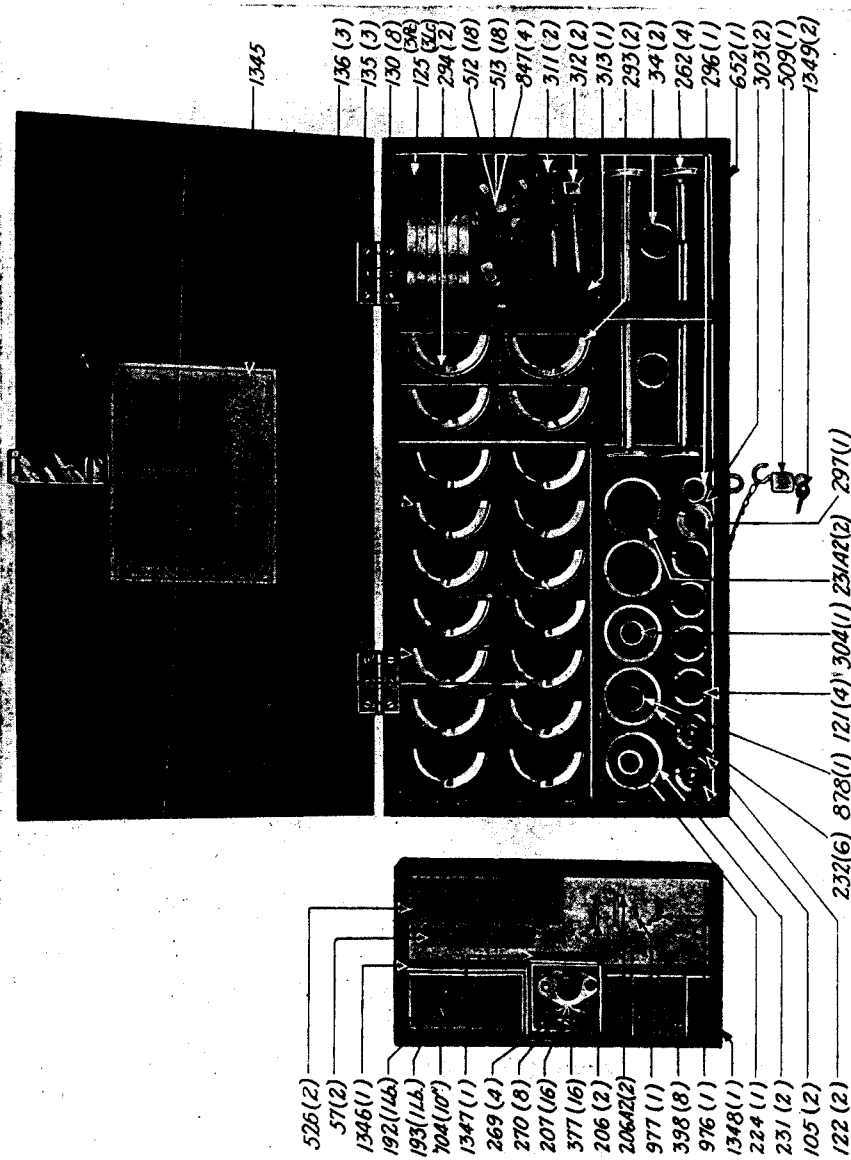

Fig. 76. (Figures in parentheses indicate authorized allowances of spare parts.)
59. Spare part box. (See Fig. 76.)